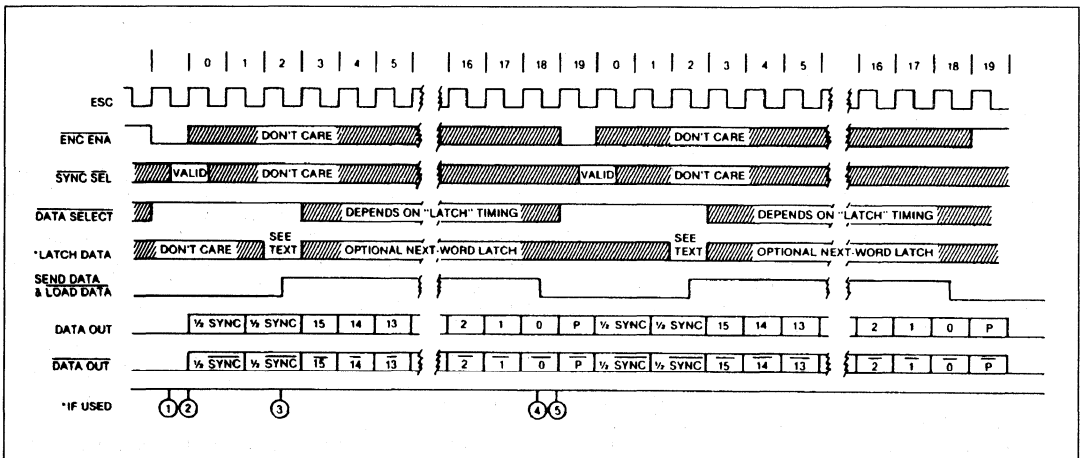

Figure 3: Transmit Cycle Timing
ENCODER SHIFT CLOCK (ESC) (see Figure 3) operates at the data rate (1MHz). A low at ENCODER ENABLE (ENC ENA) during a falling edge of ESC ① starts the Transmit cycle, which lasts for twenty ESC clock periods. The SYNC SELECT (SYNC SEL) input is valid at the next low-to-high transition of ESC ②. A high at SYNC SEL will produce a data sync, or a low will produce a command sync for that word.